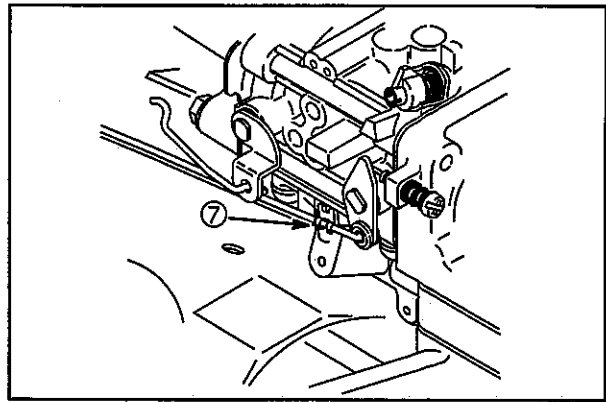

Fig. 18
4. Unhook governor link spring (7) from throttle lever. Disconnect governor link, Fig. 18.